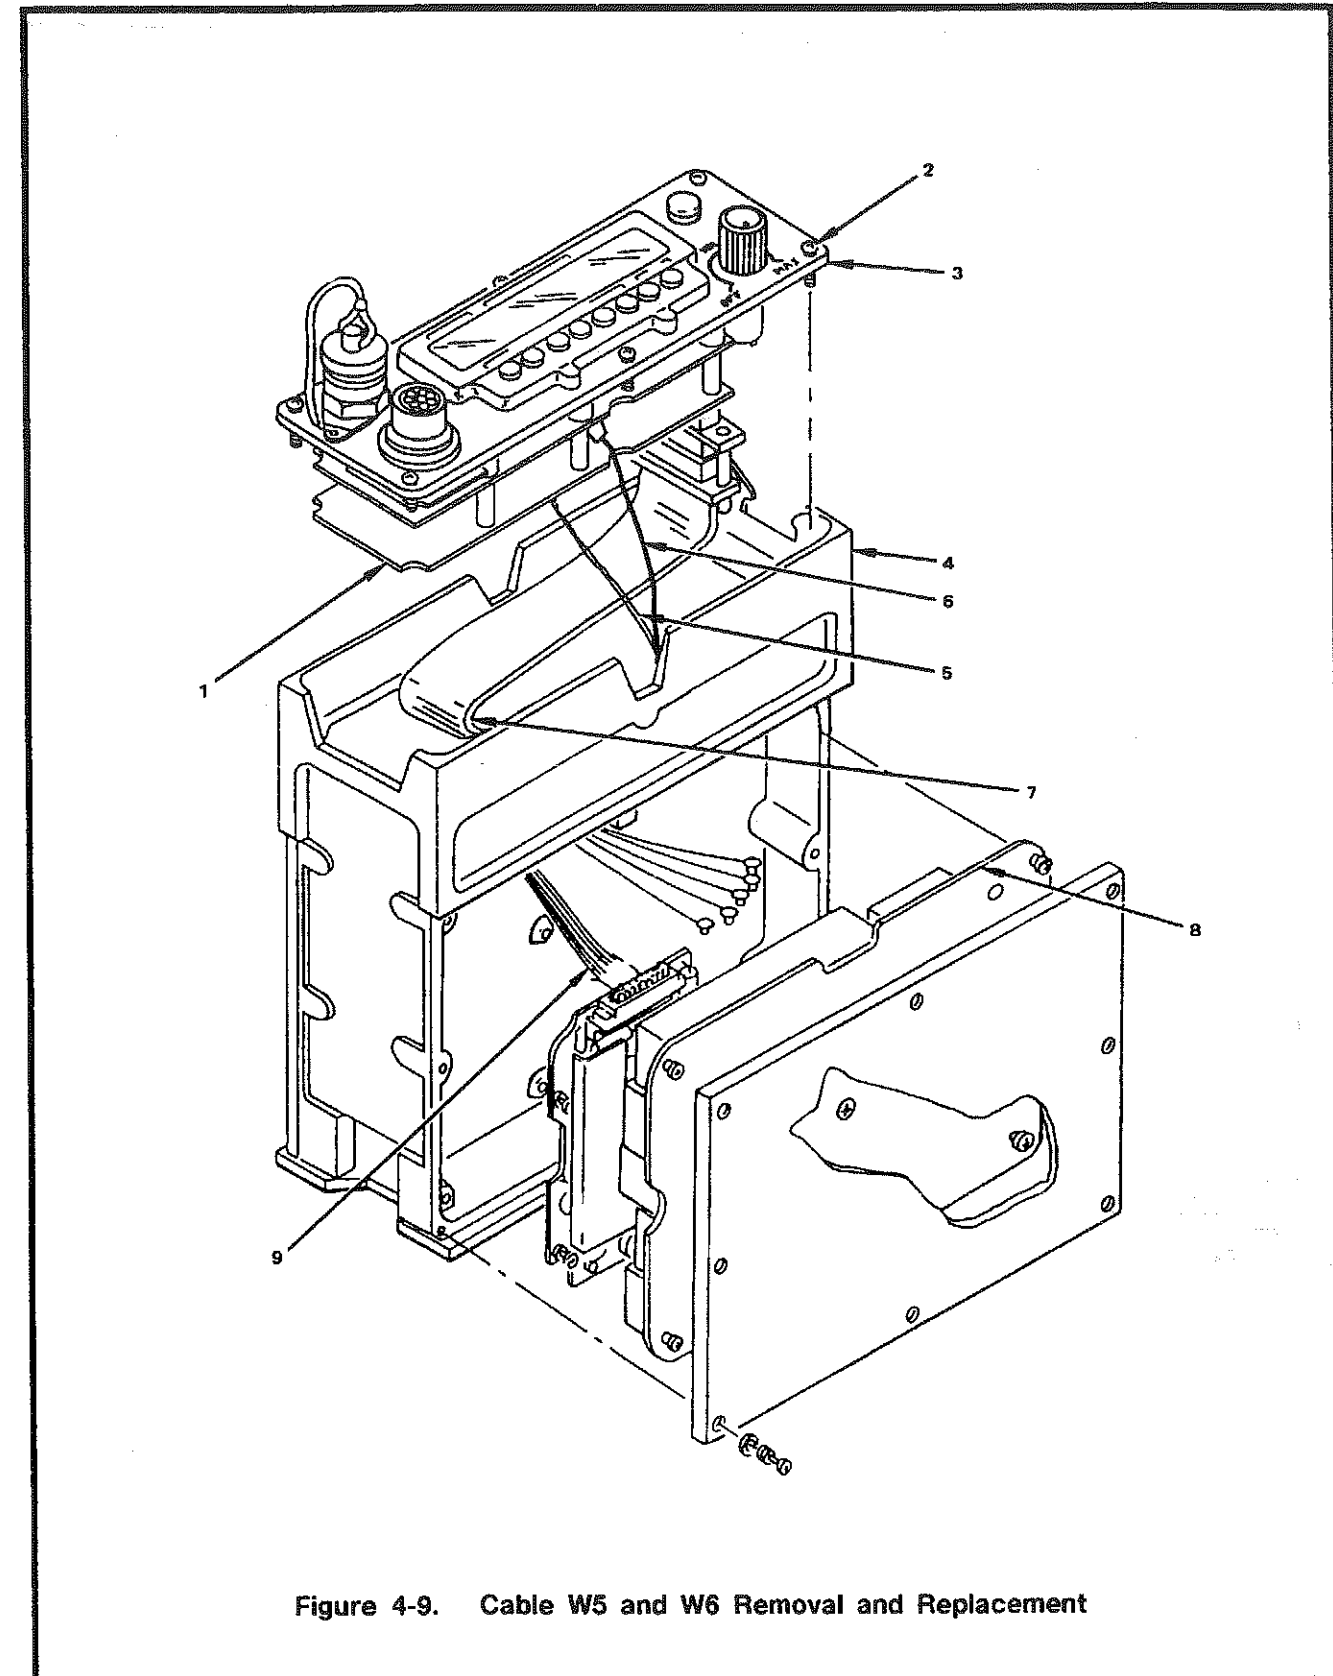

Figure 4-9. Cable W5 and W6 Removal and Replacement
1. Place RT so EFP (1) is facing ceiling.
2. Insert cable W4 (4) between printed wiring board and middle divider of RT housing (2).
3. Replace synthesizer (3) CCA, by performing procedures per Synthesizer A1A3 Replacement (page 4-12).
4. Replace modulator/demodulator (5) CCA, by performing procedures per Modulator/Demodulator A1A1 Replacement (page 4-9).
**CABLE W5 REMOVAL AND REPLACEMENT, fig 4-9**
**CABLE W6 REMOVAL AND REPLACEMENT, fig 4-9****INITIAL SETUP**